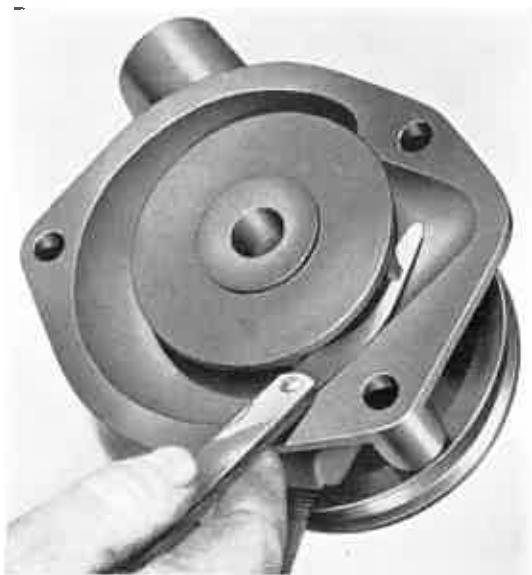

Fig. R.6.
8. The impeller should now be pressed on to the shaft. With the impeller fitted, care should be taken to ensure that a clearance of .015—.025 in. (.38—.63 mm) is maintained between the inner edge of the impeller vanes and the water pump body (See Fig. R.6). As a guide to obtaining a correct clearance in this respect, the impeller should be so positioned as to allow a straight edge to simultaneously touch the back face of the pump body and the two raised extractor hole faces in the rear of the impeller.